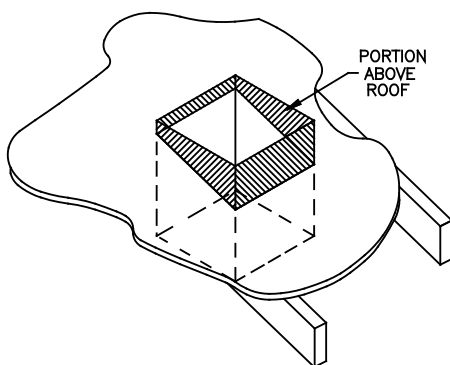
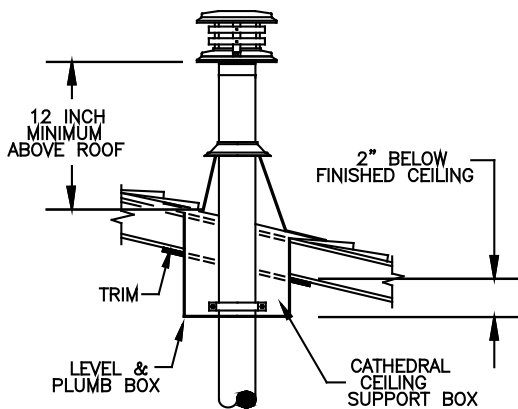

Figure 30
Figure 31
6. Run the Support Box through the roof as shown in (**Figure 30**), and place it so that the bottom of the Support Box protrudes at least 2 inches below the low side of your opening in the finished ceiling (**Figure 31**). Align the Support Box vertically and horizontally with a level. Temporarily tack the Support Box in place through the inside walls and into the roof sheathing.